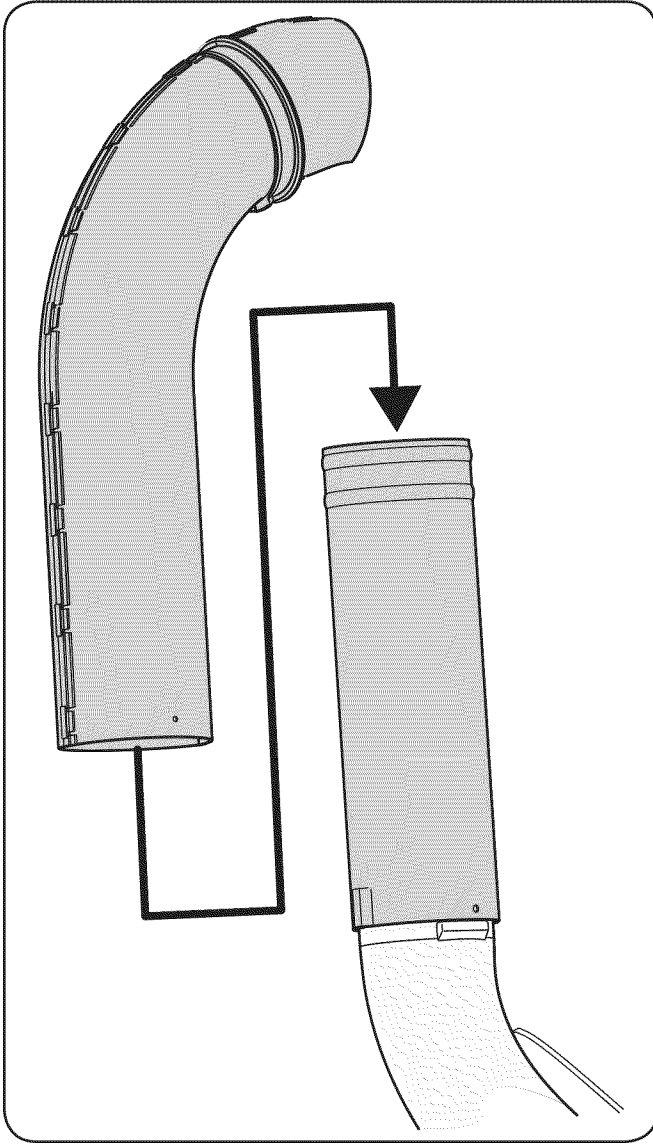
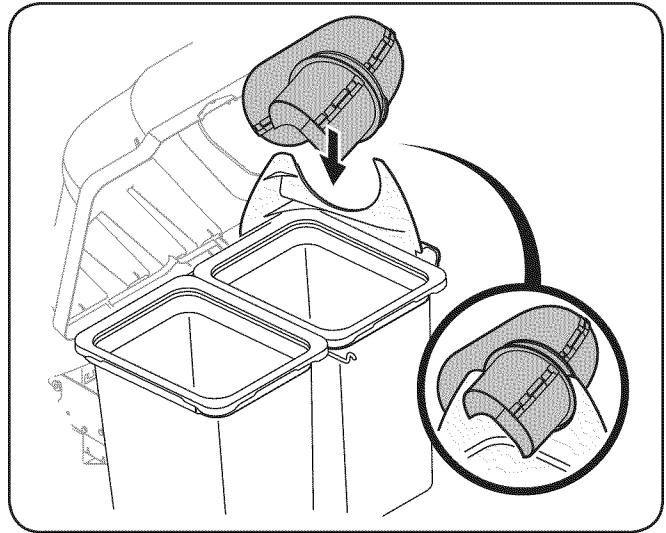

Figure 4-24
Figure 4-25
17. With the grass catcher cover open, install the discharge chute over the chute extension tube, as seen in Fig. 4-24, and rest the top end into the upper chute support installed on the right-hand side of the bag support assembly. See Fig. 4-25.
**Note:** The groove on the upper chute should be aligned with the upper chute support, as seen in the inset of Fig. 4-25.